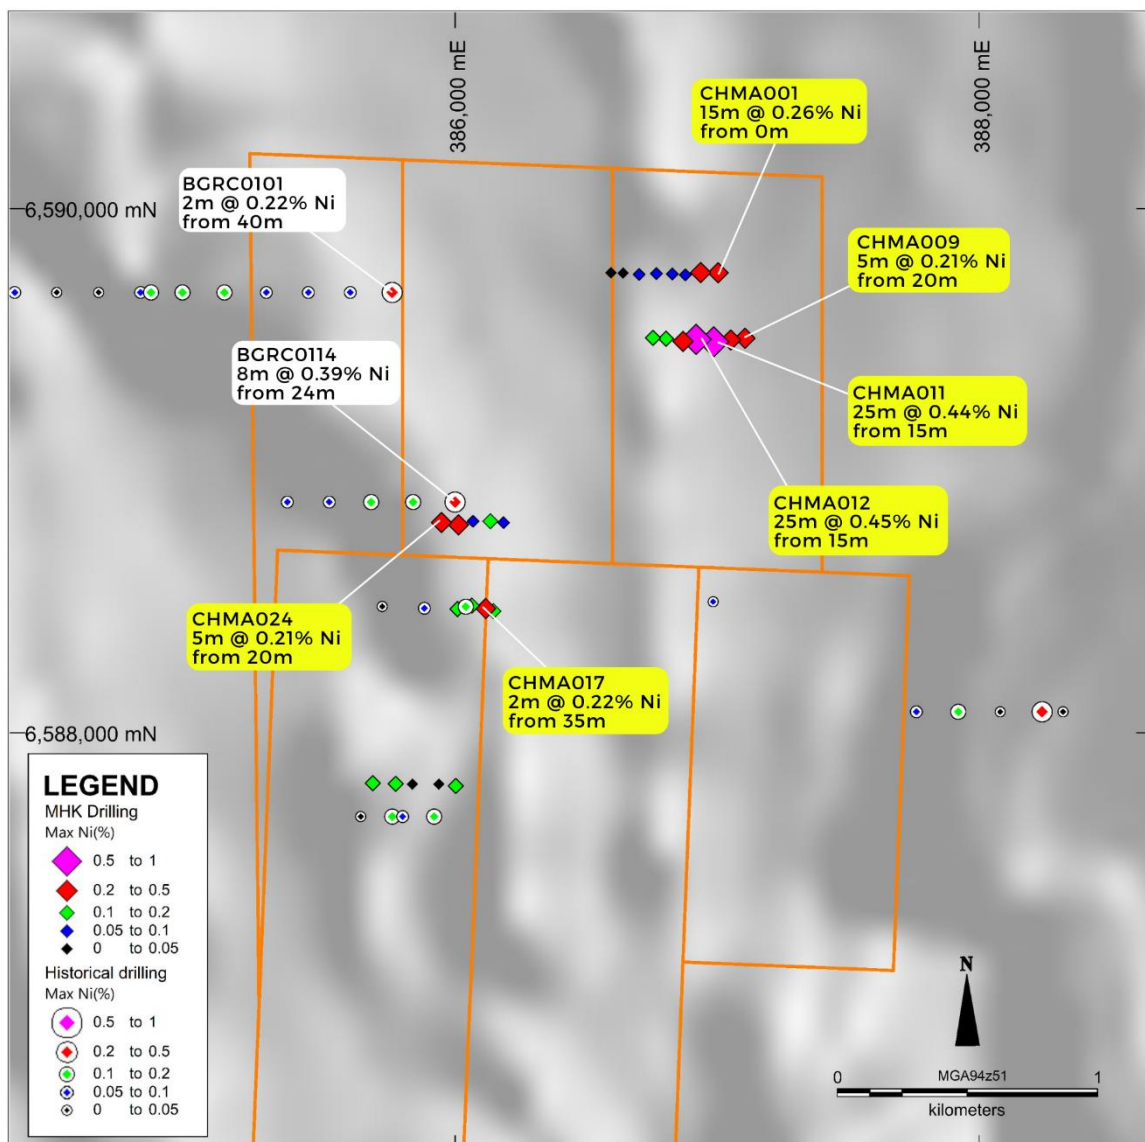

Figure 3. Aircore Drilling at Clinker Hill – new results highlighted in yellow
Located approximately 10km east from Blair North, five (5) traverses of AC drilling were carried out at Clinker Hill (see Figure 3 below), designed to test a number of geochemical and geophysical targets. The majority of drillholes intersected prospective mafic and high-MgO ultramafic rocks, with significant results including: